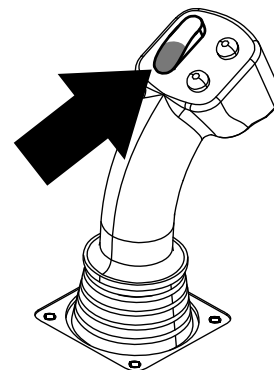
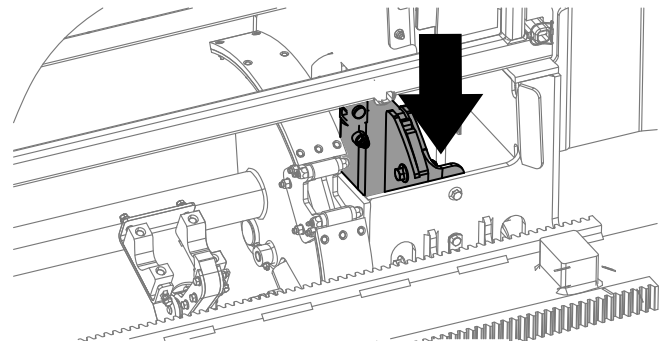

Figure 27
Figure 28
3. Hold the lower section of the rocker switch (Figure 27) until the cam assembly rotates to the selected row and the elevator lowers the pipe into the opening (Figure 28).